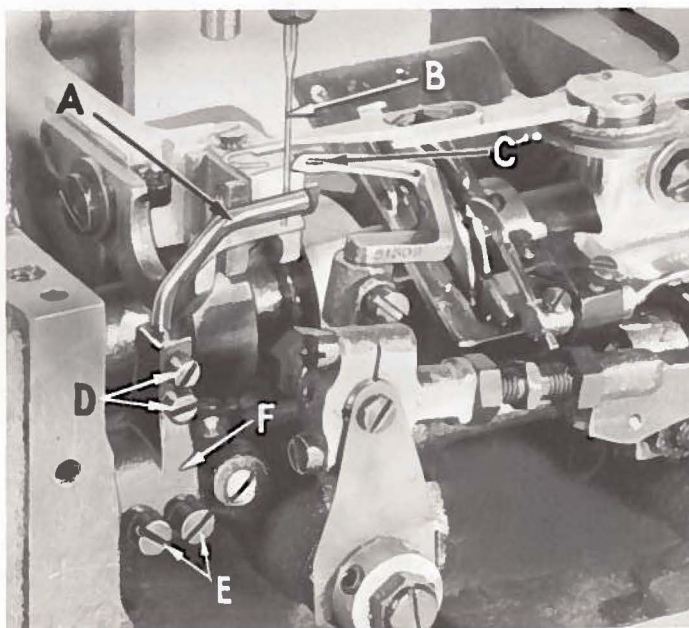

Fig. 16
Set the front needle guard (A, Fig. 16) so that its guarding surface barely contacts the needle (B) as the point of the looper (C) comes up to the needle. It should be set as high as possible without any interference from the looper. The top of the guard should be set no higher than even with the underside of the looper, yet not interfere with the needle thread. This can be accomplished by loosening screws (D) which will permit raising, lowering or rotating the guard around its shank as required, retighten screws. Should forward or rearward repositioning of the needle guard become necessary, loosen screws (E) which will permit rotation of the needle guard holder (F) around its shaft as required, retighten screws.